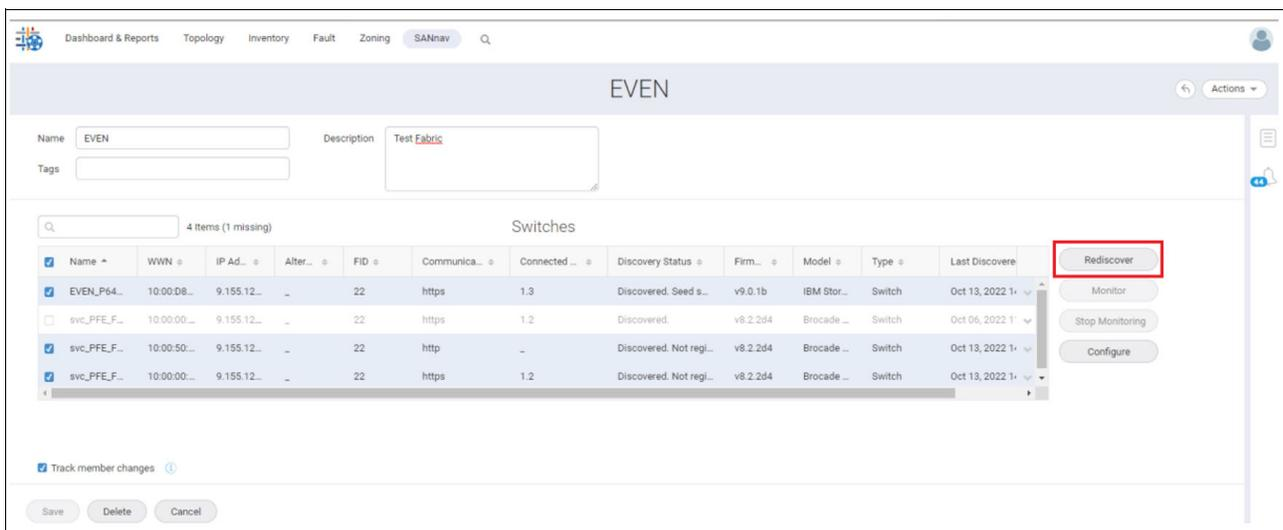

Figure 4-16 Rediscovering switches
3. Select one or more switches, and click **Rediscover** at the right of the Switches table, as shown in Figure 4-16.